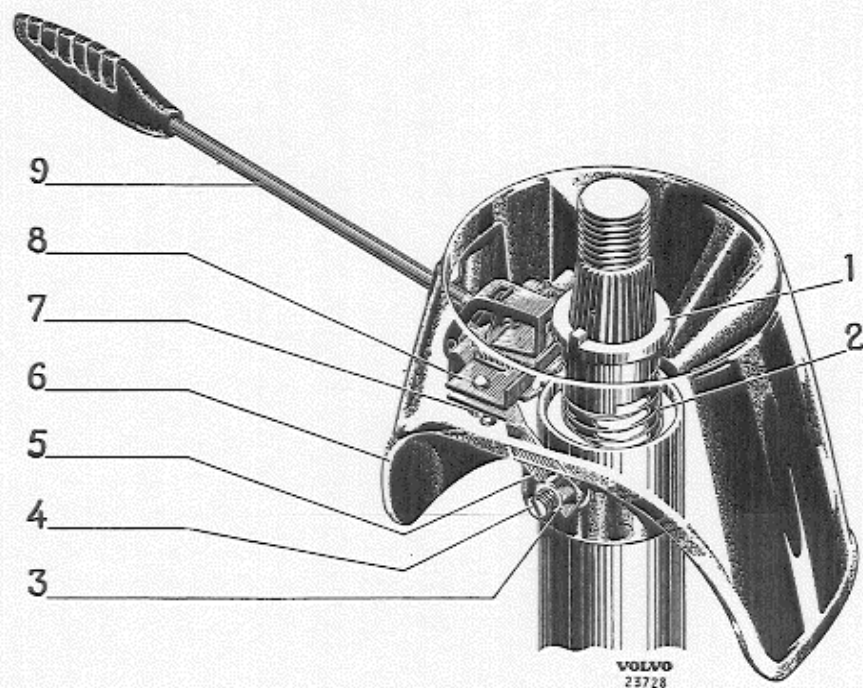

Fig. 83. Direction indicator switch.
3. Slacken the locknut, (3, Fig. 83) and screw out the stop screw (4) a few turns.
Adjusting the direction indicator switch is done by slackening the screw (4), Fig 83, after which the casing with switch can be turned to the desired position. A gap of about 2 mm (0.08") should be left between the steering wheel and casing.